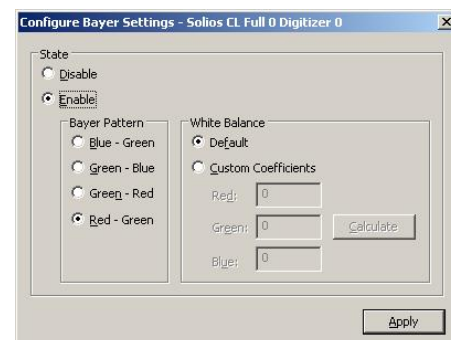

Figure 8: Configure Bayer Settings
The **Bayer** button (1) in Figure 7 opens the **Configure Bayer Settings** dialog box (see Figure 8).